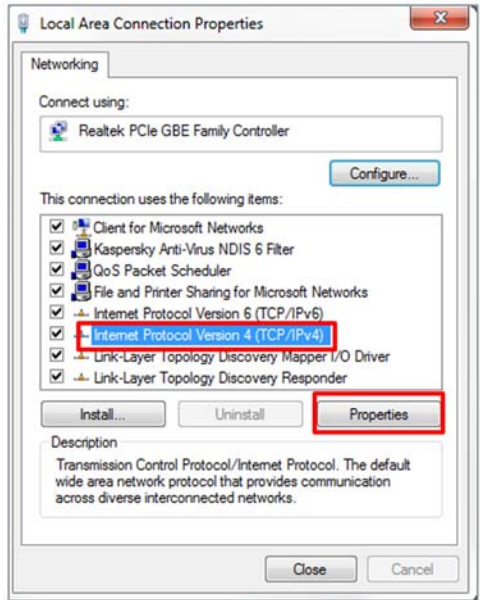

Figure 4-18: Internet Protocol Version 4 (TCP/IPv4)
5. Double click **Internet Protocol Version 4 (TCP/IPv4)**, or highlight **Internet Protocol Version 4 (TCP/IPv4)** and select **Properties**, Figure 4-18.